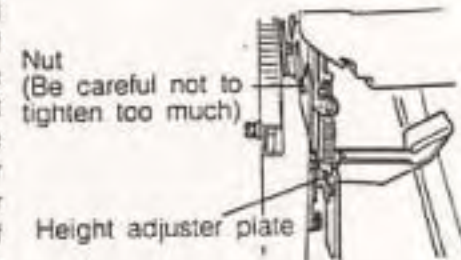
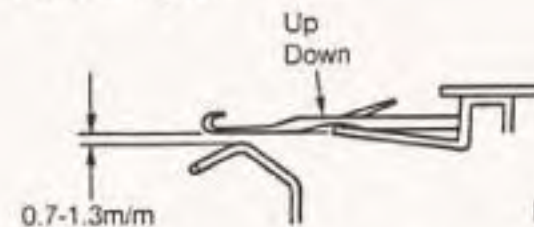

Fig.10
Fig.11
Please check the clearance between KR-gate pegs and the back of the needles of KH. (See Fig.11) If the dimension is wrong, adjust by the function of slide plate assembly. (Height adjuster plate.) See Page 1 for your reference. (From (1) to (3) of 1.2) (See Fig.10)